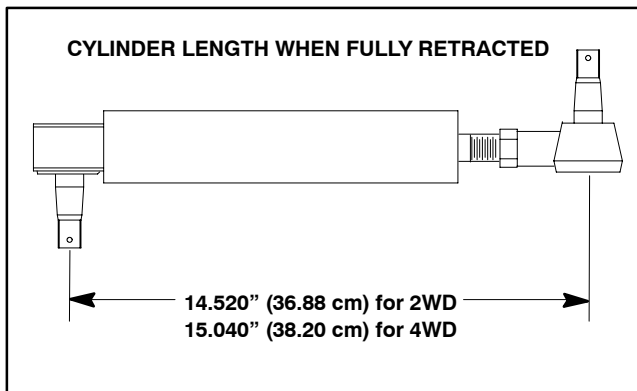

Figure 17
1. Before inspecting or adjusting front wheel alignment, check that when fully retracted, the steering cylinder has a length as shown in Figure 17. If the retracted cylinder length is incorrect, see Steering Cylinder Installation in Service and Repair section of Chapter 9 - Hydraulic System for steering cylinder ball joint installation procedure.